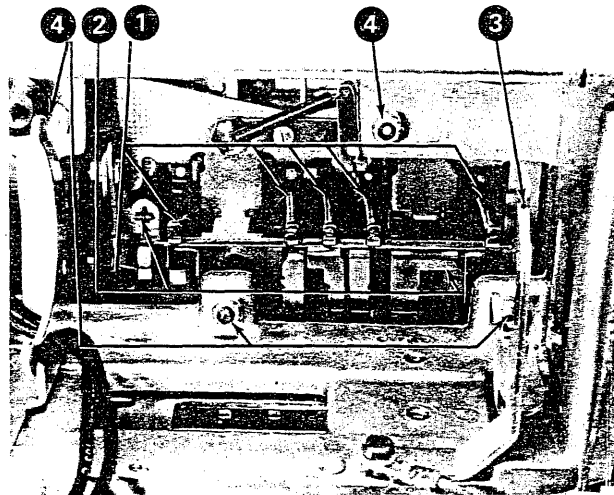

Figure 4-31. Differential-Plate Removal (Steps 12-15)
12. Remove all latch springs (No. 1, Figure 4-31).
13. Remove all latch links (No. 2, Figure 4-31).
14. Remove the left motor mount (No. 3, Figure 4-31).
15. Remove the four differential mounting nuts (No. 4, Figure 4-31). Do not lose the wedge in the lower left mounting stud.